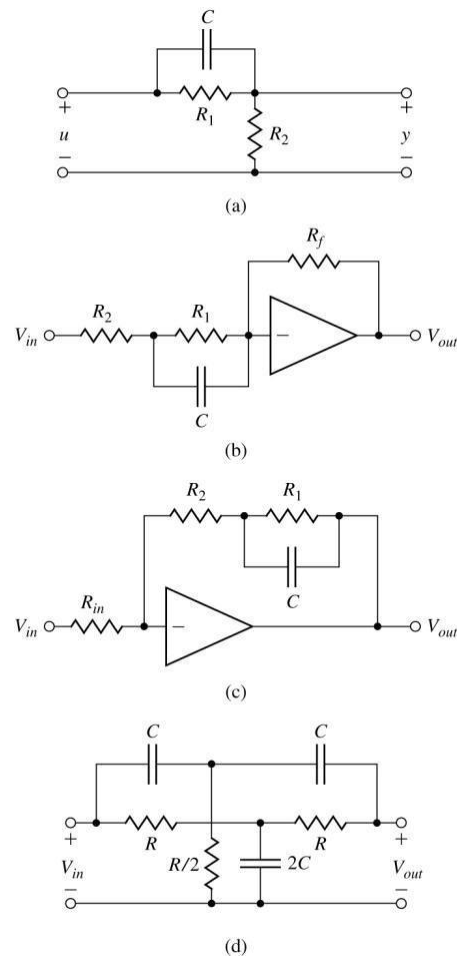

Figure 2.51: (a) Passive lead, (b) active lead, (c) active lag, (d) passive notch circuits
15. Write the dynamic equations and find the transfer functions for the circuits shown in Fig. 2.51.